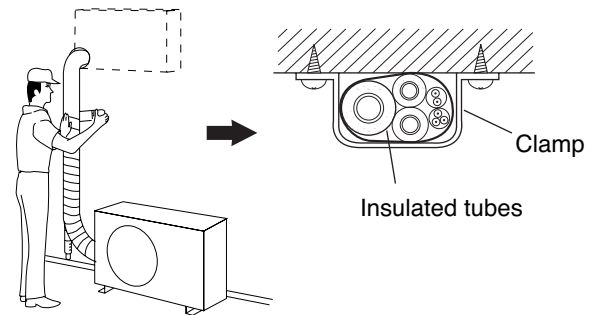

Fig. 18
- (1) At this time, the 2 refrigerant tubes (and electrical wire if local codes permit) should be taped together with armoring tape. The drain hose may also be included and taped together as 1 bundle with the tubing.
- (2) Wrap the armoring tape from the bottom of the outdoor unit to the top of the tubing where it enters the wall. As you wrap the tubing, overlap half of each previous tape turn. (Fig. 18)
- (3) Clamp the tubing bundle to wall, using 1 clamp approx. every 47" (120 cm).